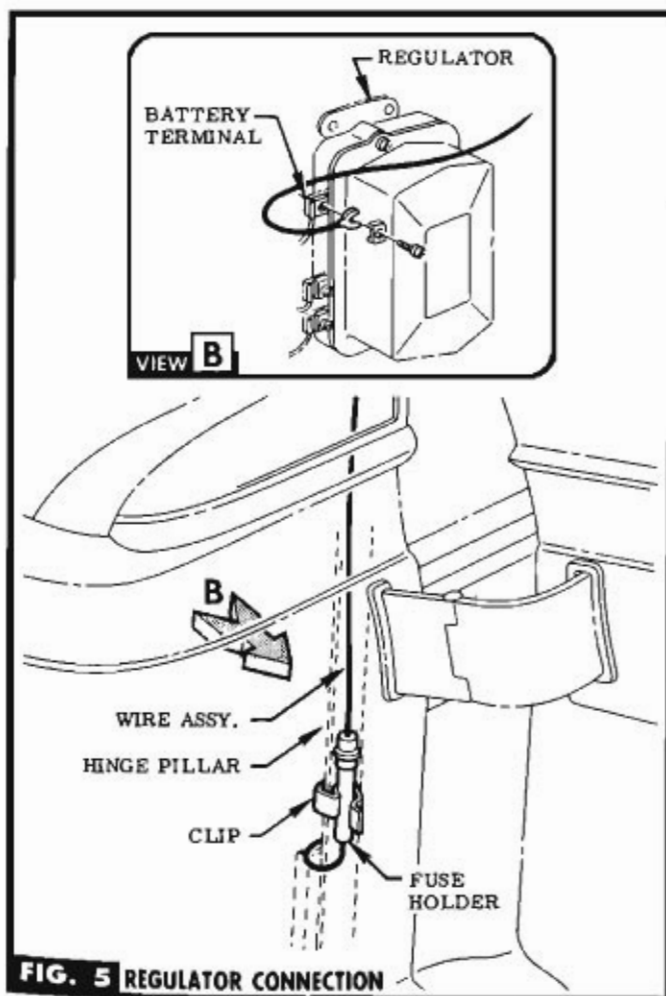

FIG. 5 REGULATOR CONNECTION
STEP 11 ROUTE TERMINAL END OF WIRE ASSY. TO FRONT OF REGULATOR, CLIP FUSE HOLDER TO HINGE PILLAR & CONNECT WIRE TO BATTERY TERMINAL ON REGULATOR. SEE FIG. 5 & VIEW B.